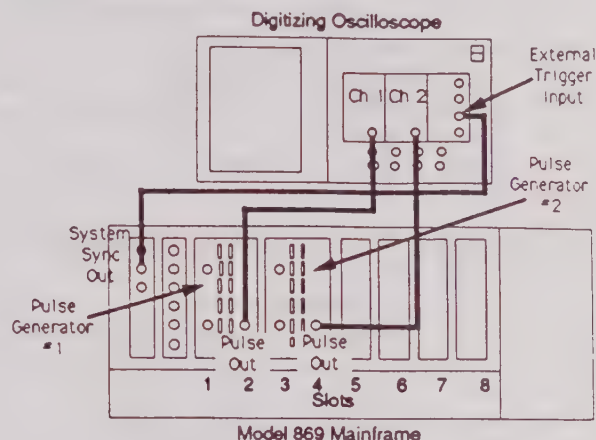

Figure 2-17. Master/Slave Mode Hookup #2
- Remove the coax from the channel 1 Sync Out connector and reconnect to the channel 2 Pulse Out connector as shown in figure 2-17.